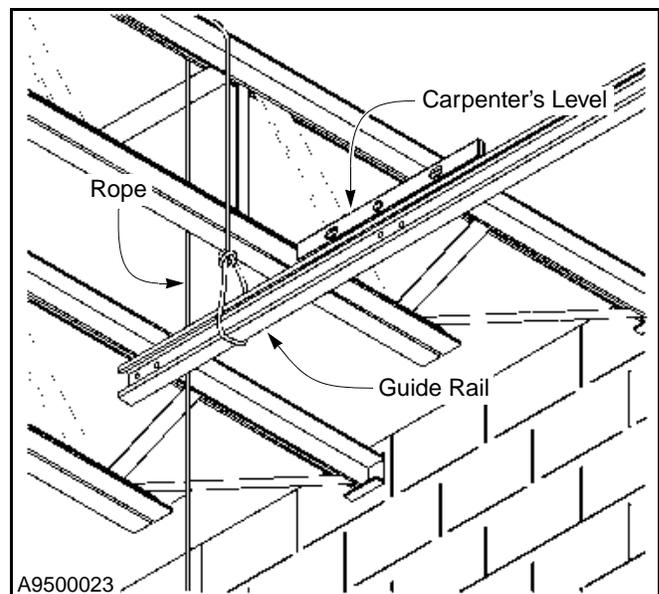

Figure 49
3. Support the end of the guide rail with rope or a mechanical device. Place a carpenter's level on top of the guide rail and secure the guide rail in a level position. (See Figure 49.)